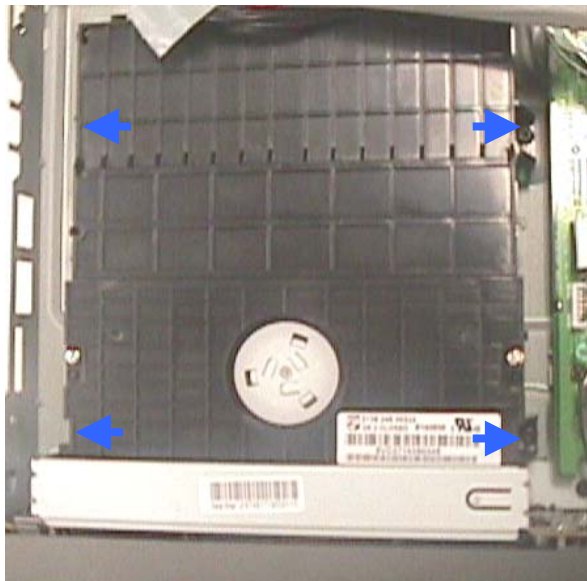

Figure 5 - Basic Engine mounting screw
- 1) Remove 4 mounting screw mounting the Basic Engine1007 from the Frame Assembly 0920 as shown in figure 5.